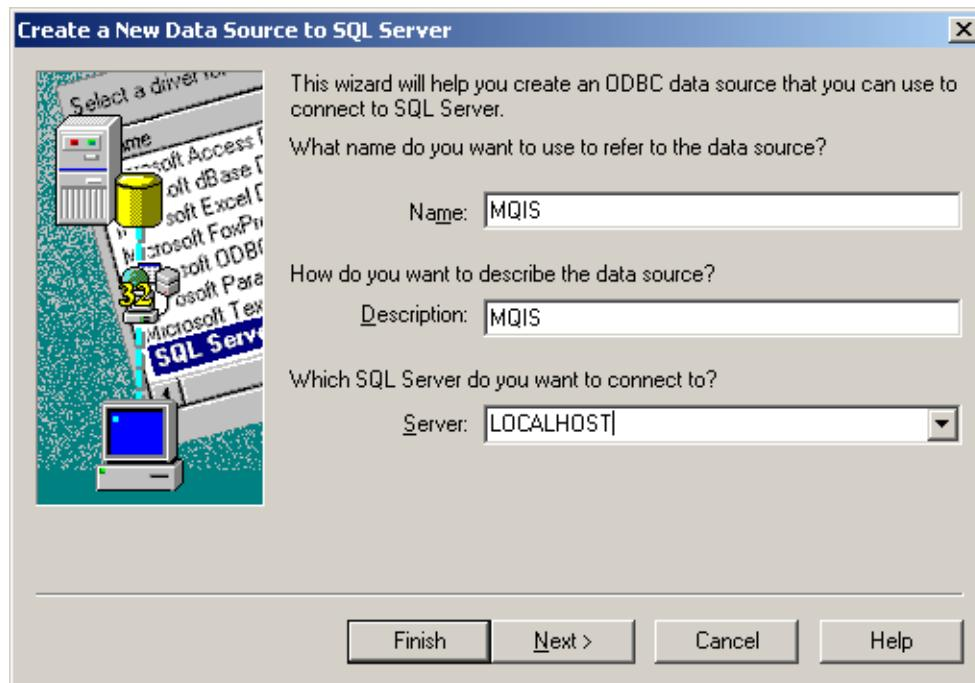

Figure 37: Creating a new data source
5. Enter the name of the data source in the **Name** field. The name is used to connect to the database through SYS600, see Figure 37.